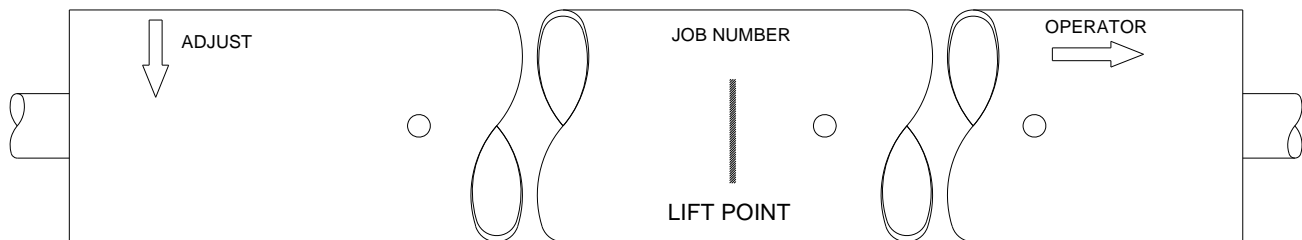

Figure 6.1 – Barrel Markings (right hand operation shown)
2. Unpack the barrel assembly. Note the markings on the barrel, see **Figure 6.1** below.
- **Crane Hoisting:** Place a sling or lifting agent under the barrel assembly at the “lift point” provided on the barrel, see **Figure 6.1**.
- **Forklift Hoisting:** Space the forks evenly under the “lift point” provided on the barrel, see **Figure 6.1**. Ensure that the barrel assembly is positioned close enough to the tips of the forks that the fastening holes in the bracket can be aligned with those of the guides without the forks contacting the wall. Secure the barrel assembly to avoid the slipping off the tip of the forks.